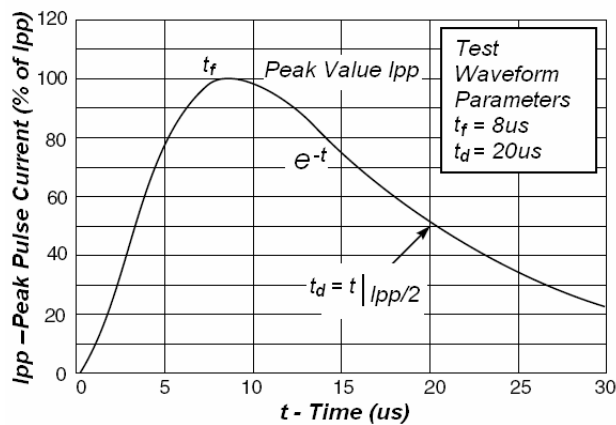

Fig1. Pulse Waveform
- 2. Surge current waveform per Figure 1.